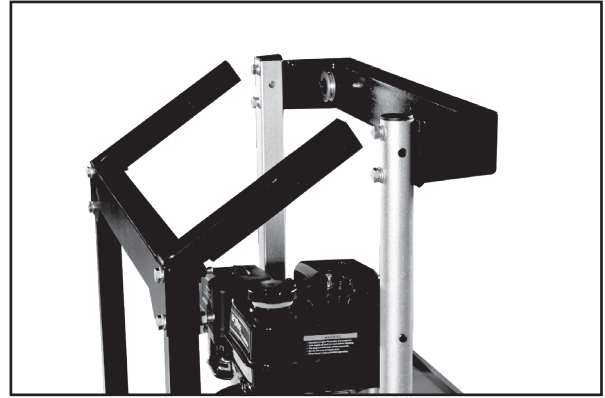

Fig. 31
Step 18: Install the Front Carriage Crossbeam. With the carriage on the track, align the four holes on the Front Carriage Crossbeam with the holes on the square and round support tubes. Use four M10x55 bolts, lock washers, and flat washers through the support tubes to attach the Front Carriage Crossbeam (Fig. 31). Tighten the bolts to secure in place.